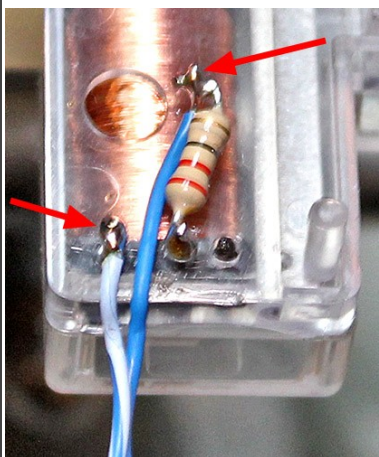

Fig. 42: Pigtail wires soldered.
- ☐ Use needle nose pliers to wrap the hooked end of the longer "pigtail" wire you cut earlier around the remaining bent lead on the 22-ohm resistor. If you didn't glue the resistor as recommended above, be very careful not to rotate the resistor and the motor terminal more than a few degrees. The resistor acts as a "handle" that easily rotates the terminal. Run the wire between the two motor terminals at the edge of the movement housing to the resistor lead near the hole in the housing (blue wire, upper arrow in **Fig. 42**). Solder the wire to the resistor lead.
- ☐ Use needle nose pliers to wrap the hooked end of the shorter pigtail wire around the left-hand motor terminal (white/blue wire, lower arrow in Fig. 42), and solder it.
housing above the motor coil, seen in **Fig. 42**.
- Note:** Ignore the PCB shown in these photos. The photos were made before I determined that the PCB must be removed. A modified movement will have the resistor and two wires instead of the PCB, as shown in **Fig. 42**.